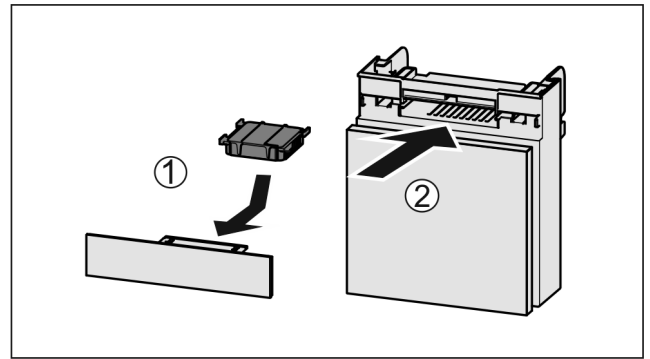

Fig. 173
- ▶ Insert the carbon filter as shown in the diagram Fig. 173 (1).
- ▶ Push the compartment in Fig. 173 (2).